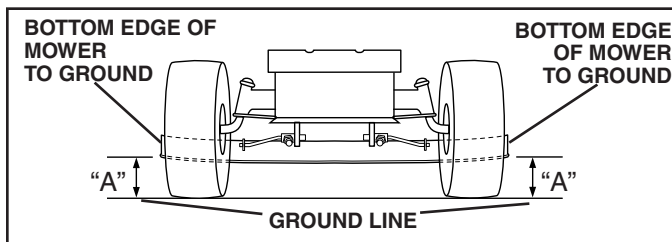

FIG. 16
**SIDE-TO-SIDE ADJUSTMENT** (See Figs. 16 and 17)